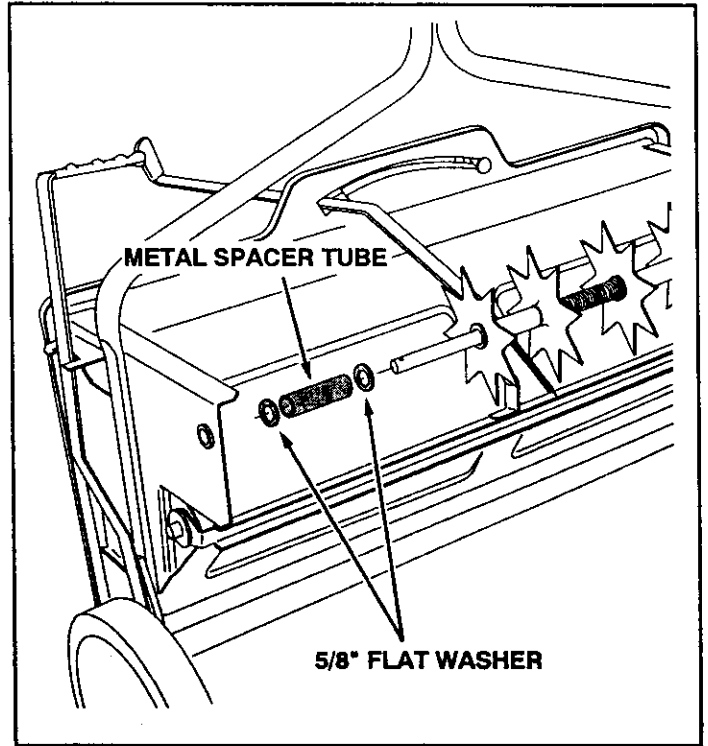

FIGURE 18
- Place two 5/8" flat washers separated by a metal spacer tube onto the shaft. See figure 18.